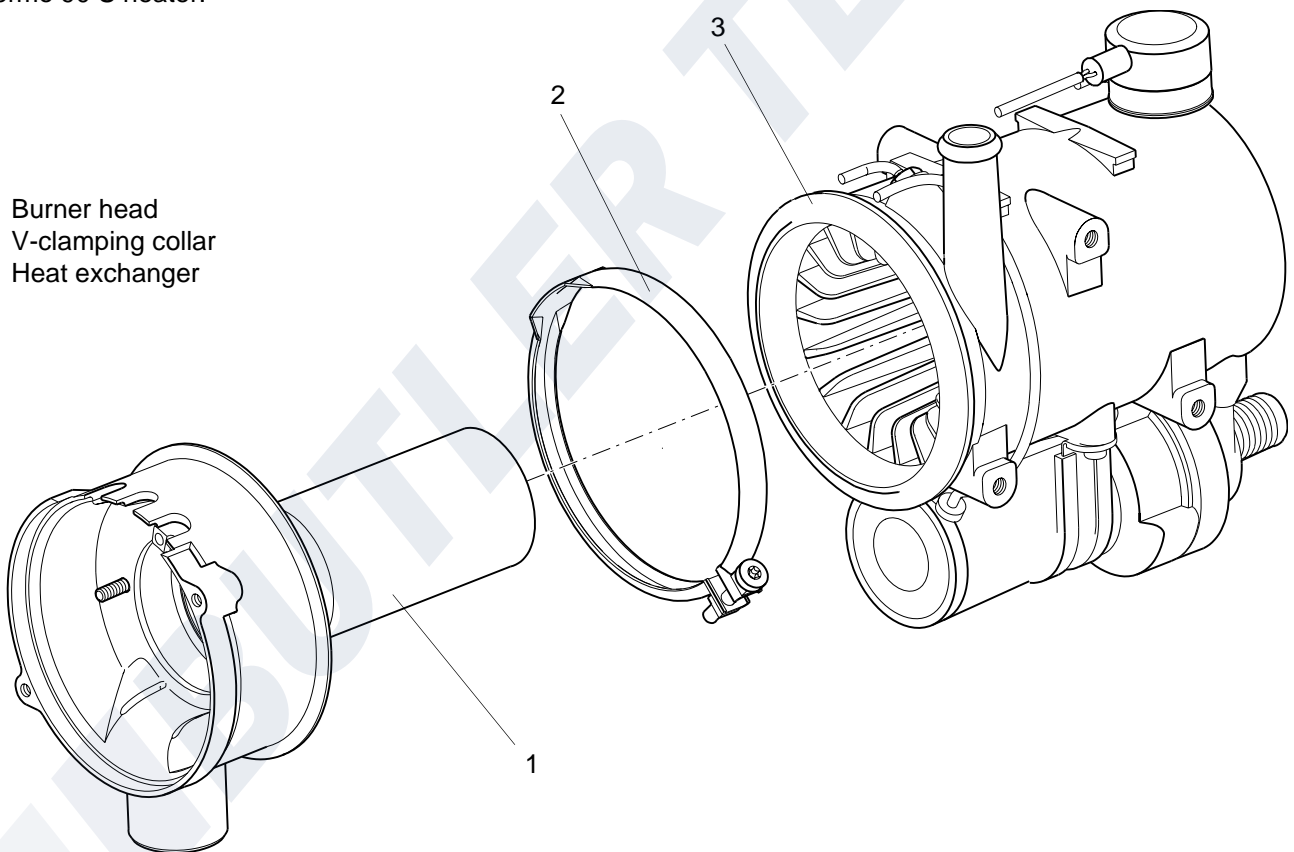

Fig. 906 Changing the burner head
4. Remove the mounting screw of the V-clamping collar (2, Fig. 906) and pull off the clamping collar.
5. Pull out and remove the burner head (1) from the heat exchanger (3).
1. Guide the burner head (1, Fig. 906) into the heat exchanger (3), align it if necessary and secure with the V-clamping collar (2).